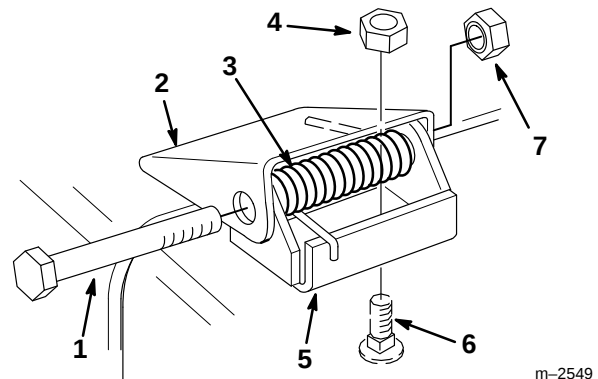

Figure 49
2. Remove the locknuts, bolts and springs holding the deflector mounts to the pivot brackets (Fig. 49).
3. If the pivot brackets need to be replaced, remove the carriage bolts and cone locknuts holding the old brackets to the top of the discharge opening, then install the replacement pivot brackets. Make sure the carriage bolt heads are on the inside of the cutting unit (Fig. 49).
4. Install the deflector mounts onto the pivot brackets with the bolts, springs and locknuts. Make sure the straight ends of the springs are positioned between the deflector mounts and the grass deflector (Fig. 49).
5. Tighten the locknuts until they contact the pivot brackets (Fig. 49).